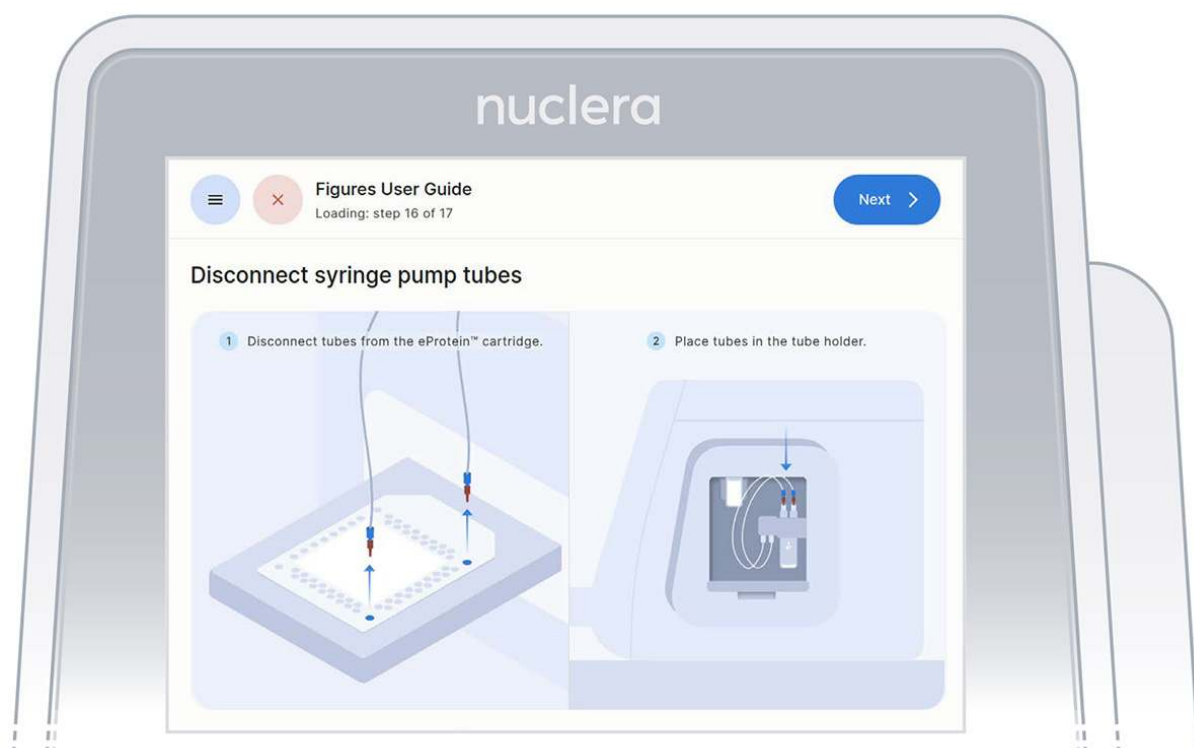

Figure 27: Disconnect the tubes and place them on the tube holder
2. Disconnect the tubes from the cartridge and place them in the tube holder on the right hand side of the instrument. Press the **[Next]** button on the screen (Figure 27), and the drawer will close. Loading checks will be performed, and the drawer will open.